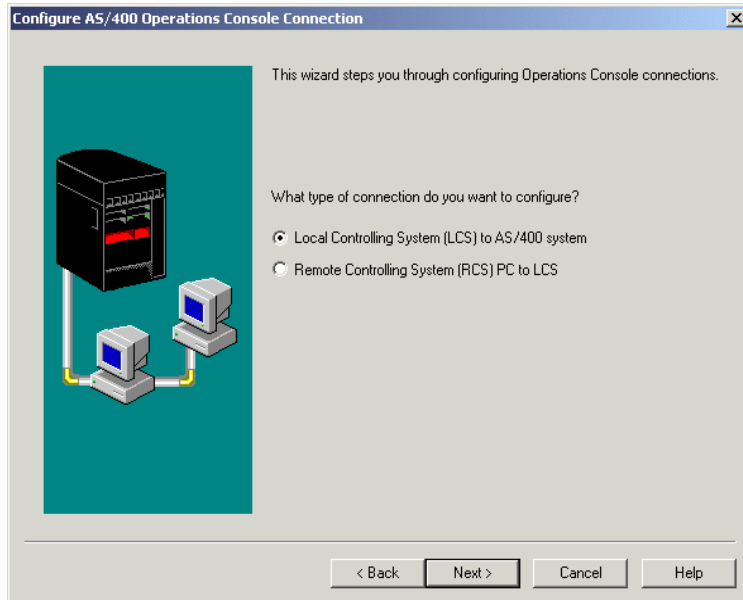

Figure 7-21 Configure AS/400 Operations Console Connection display
2. The wizard asks what type of connections you want to configure as shown in Figure 7-21. Click **Local Controlling System (LCS) to AS/400 system**. Then, click **Next**.